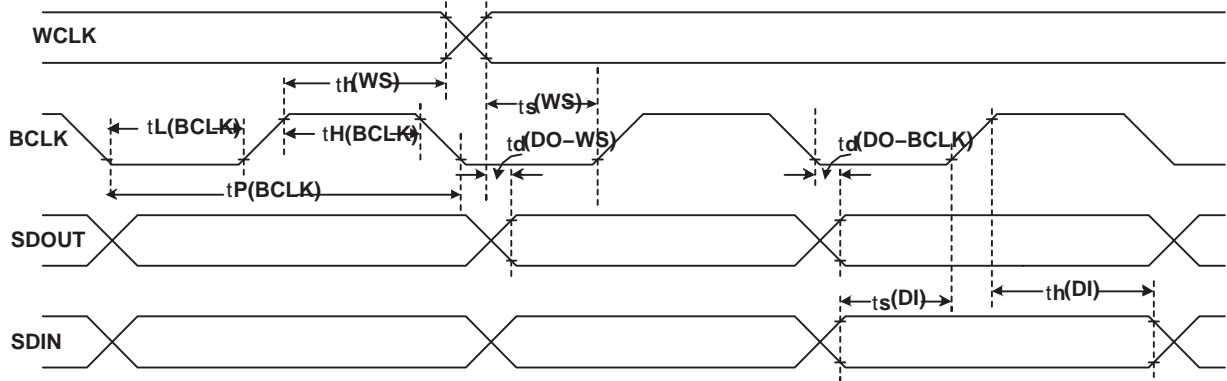

**Figure 2. DSP Timing in Master Mode**
**Typical Timing Requirements (see Figure 2)**